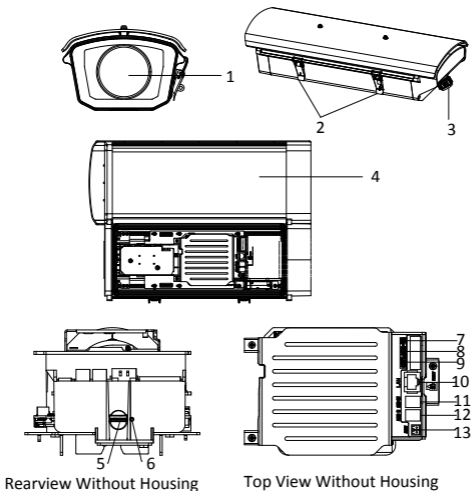

Figure 1-1 Overview of the Camera
4. Unbuckle the housing to open the camera, connect the cables through the cable outlet. See Figure 1-1 for the corresponding interfaces.